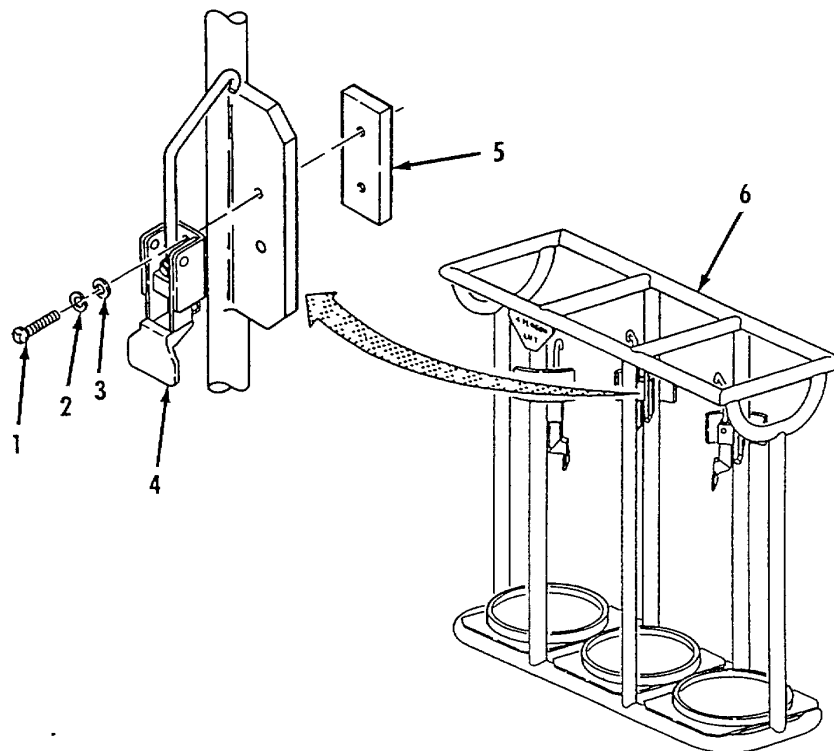

Figure 4-25. Fire Extinguisher Frame Repair.
a. Disassembly. Refer to figure 4-25.
(1) Remove two screws (1), lockwashers (2), flat washers (3), latch (4) and nut plate (5) from frame (6).
(2) . Repeat step (1) for two remaining latches (4).
d. Assembly. Refer to figure 4-25.
(1) Position nut plate (5) and latch (4) on frame (6).
(2) Install two flat washers (3), lockwashers (2) and screws (1) and attach latch (4) and nut plates (5).
(3) . Repeat steps (1) and (2) for two remaining latches (4).